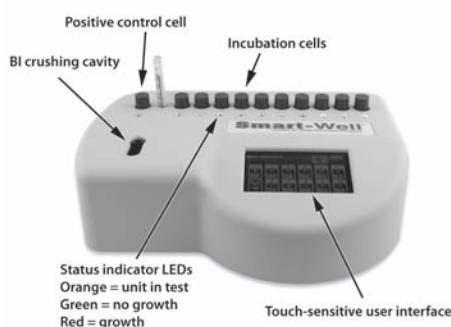

Figure 1. Smart-Well incubator
1. To activate a Smart-Read EZTest BI, place it into the Smart-Well incubator crushing cavity (Figure 1) and pull it forward until the glass ampoule inside breaks, releasing the purple growth media.
2. Place one unexposed, activated BI into the positive control cell labeled **C** (Figure 1). A yellow BI is the desired result for the positive control. A positive control is to be used anytime a load is being verified or at least once per day.
3. Activate all processed Smart-Read EZTest BIs and place them into the incubation cells numbered **1** through **10** (Figure 1).
- ⓘ When a Smart-Read EZTest BI is placed into a cell, the status LED (Figure 1) in front of the cell will illuminate amber indicating that the incubator has recognized the BI. The corresponding key on the LCD **Main Menu** (Figure 2) will display the word **TEST** and the number of whole hours that the test has been in progress (Figure 3). (e.g. if a test has been in progress for four and a half hours, the display will read **04H**).